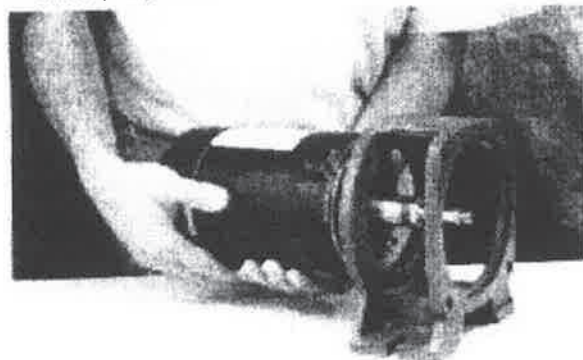

FIG. 4
- (a) Remove four bolts holding bracket to motor and remove motor (Fig. 4)